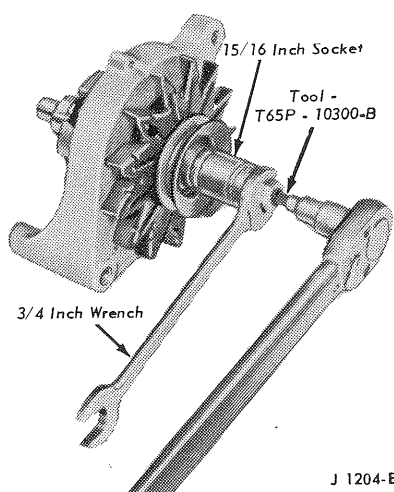

FIG. 18 Pulley Removal
9. Remove the drive pulley nut with the tool shown in Figure 18; then, pull the lock washer, pulley, fan, fan spacer, rotor and rotor stop from the rotor shaft.
5. Position the front housing, fan spacer, fan, pulley and lock washer on the drive shaft and install the retaining nut. Tighten the retaining nut with the tool shown in Figure 18 to the specified torque.